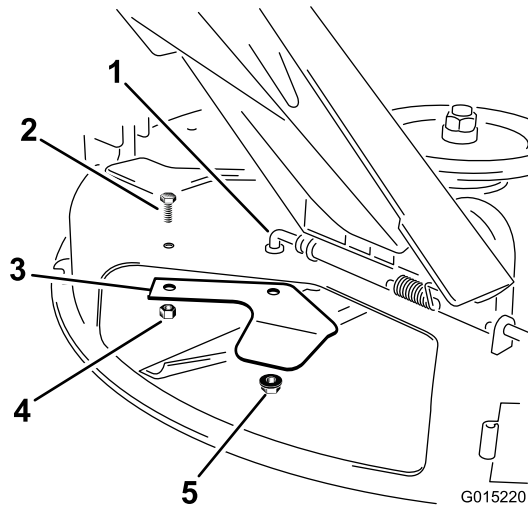

Figure 24
2. Remove the locknuts and bolt securing the cutoff baffle to the underside of the mower deck (Figure 24). Retain all the fasteners.